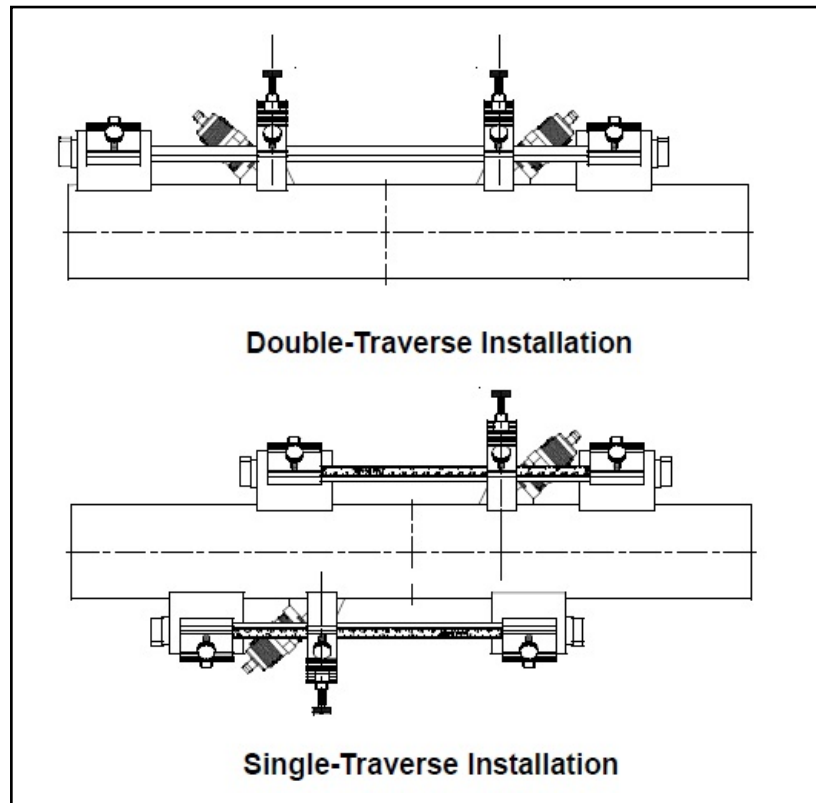

Figure 38: Completed MCF Installations with Transducers
5. Repeat Steps 1-4 to mount the remaining transducer in the other sub-assembly. See *Figure 38* on the following page for completed typical MCF installations.